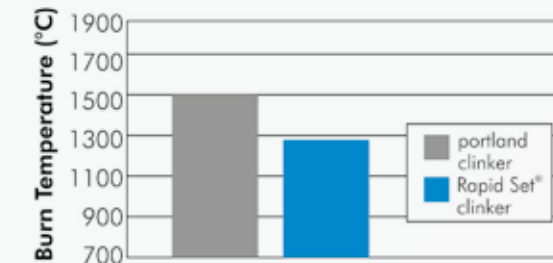

Fig. 2: Clinker burning temperature of portland cement and Rapid Set® cement
- The burning temperature of Rapid Set® clinker is 1,280°C (2,326°F), which is significantly lower than portland clinker burning temperatures (Fig 2).
• The average burning temperature of portland clinker is about 1,500°C (2,732°F) or more (Fig 2).